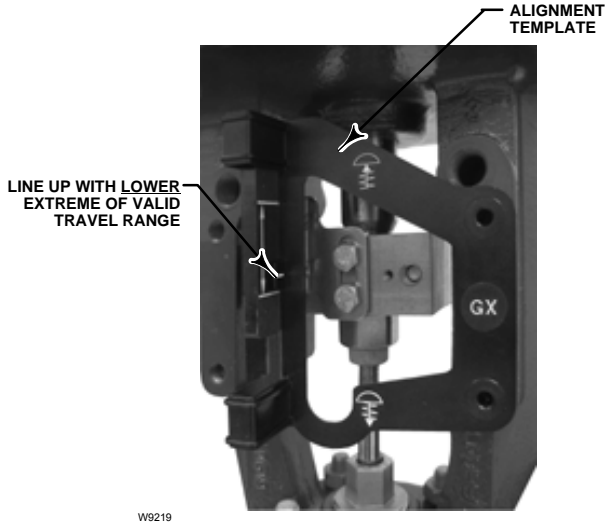

Figure 2-11. Air-to-Close Fisher GX Magnet Array Alignment
- **For air-to-close GX actuators** vertically align the magnet array so that the center line of the alignment template is lined up as close as possible with the lower extreme of the valid travel range on the feedback array. See figure 2-11.